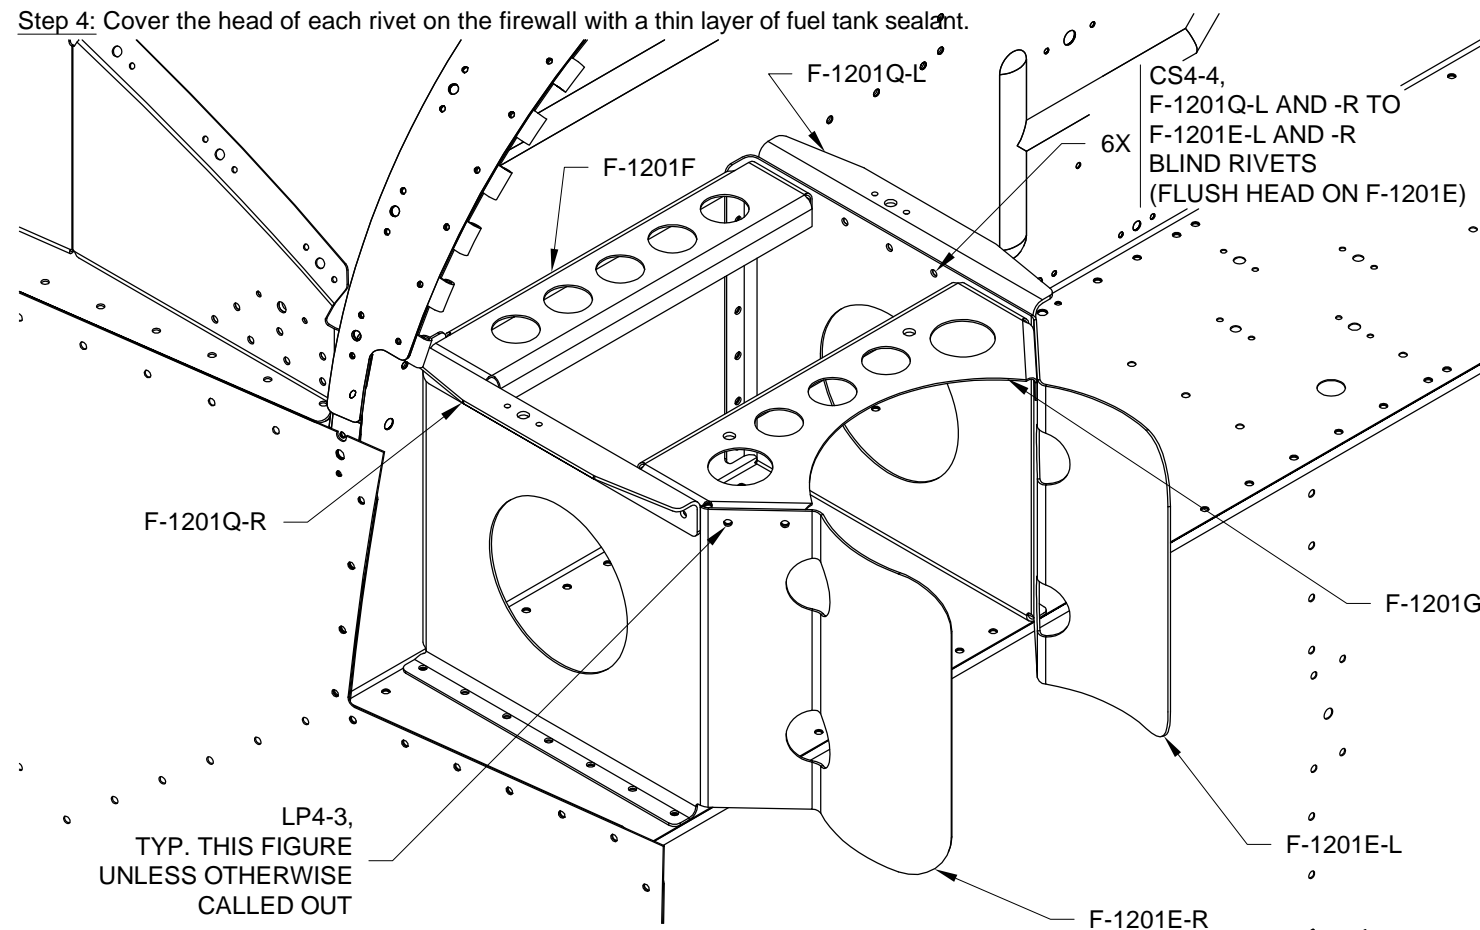

FIGURE 1: ADDING THE OIL TANK BRACES
Step 1: Dimple the three holes in each F-1201E-L and -R Oil Tank Side Brace that will receive flush fasteners as called out in Figure 1. Machine countersink the corresponding holes in the F-1201Q-L and -R Battery Mount Angles.
Step 2: Rivet the F-1201E-L and -R Oil Tank Side Braces to the F-1201A Firewall Upper. Rivet the F-1201F Battery Mount Brace to the firewall upper. See Figure 1.
Step 3: Rivet the F-1201F battery mount brace, F-1201Q-L & -R Battery Mount Angles and F-1201G Oil Tank Brace to the oil tank side braces. See Figure 1.